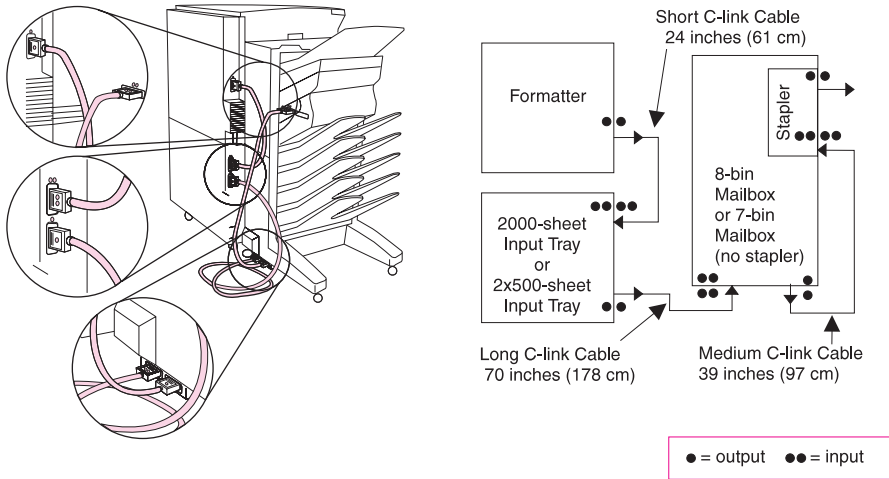

Figure 7-7 Communications Link (C-link) Cables, Supported Daisy Chain Connections
Note It is important that the C-link cables are installed in the supported daisy chain configuration as shown in figure 7-7. This is so that the devices are recognized and correctly reported on the Event Log.
If any of the installed devices are not shown on the configuration page, verify that the C-link cabling is correctly connected and functional (figure 7-7) and that DC power is available to the paper handling devices. Check and reseal suspect cable connections. If any of the cables are replaced, you must cycle the power to have the printer recognize the device again.
- 5 Verify that the C-link cables are connected as shown in figure 7-7 on page 523.